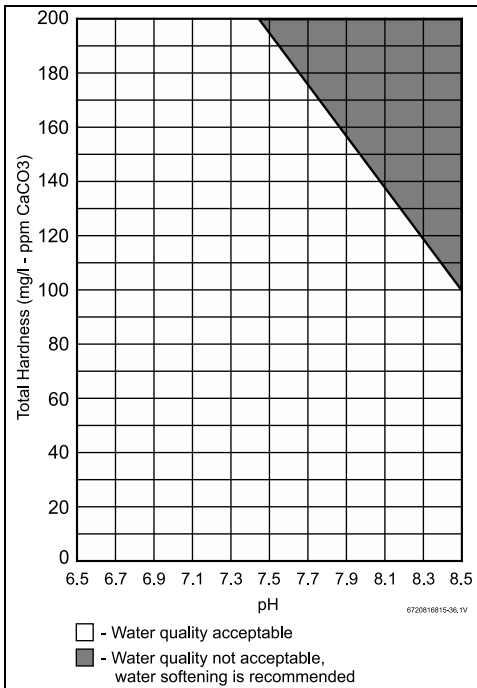

Fig. 26 Water total hardness and pH values
Water quality can have an impact on appliance longevity. Water supplied to the Greentherm T9800 SE / SEC must be in accordance with table 16 and fig. 26.
For water analysis data call your local water department, or if on a well, have well water analyzed periodically. Heavy scale will form if the combination of water total hardness and pH exceeds the values specified in fig. 26 (grey area), Bosch recommends consulting a local water treatment professional for water softening/conditioning options.
1. Total Hardness and pH maximum values must be evaluated in combination. Indicated maximum values will be reduced according to fig. 26.